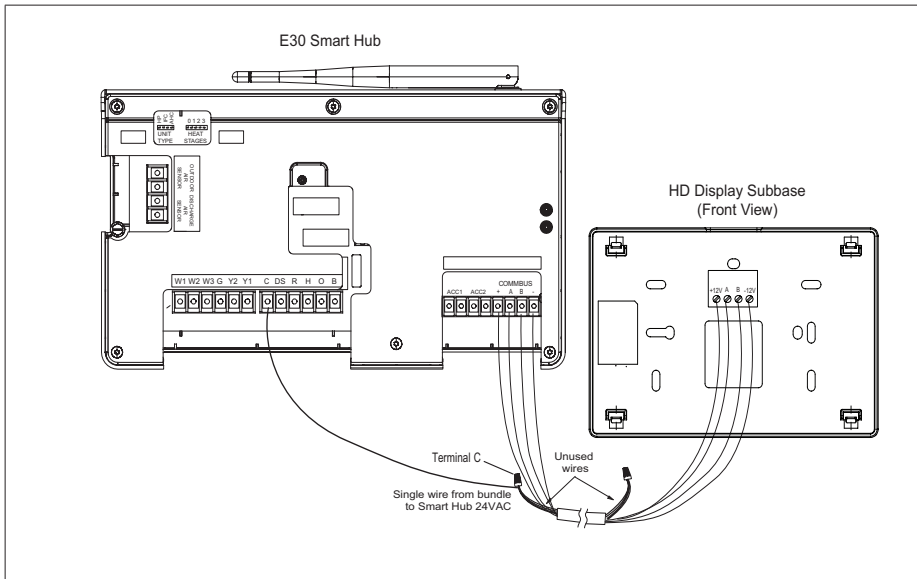

Figure 5. Thermostat Wiring - E30 Smart Hub to HD Display Subbase (Electrical Noise Termination Consideration)
- Use wire nuts to bundle the unused wires at each end of the cable. A single wire should then be connected to the indoor unit end of the wire bundle and attached to the “C” terminals as shown in “Figure 5. Thermostat Wiring - E30 Smart Hub to HD Display Subbase (Electrical Noise Termination Consideration)” on page 8.